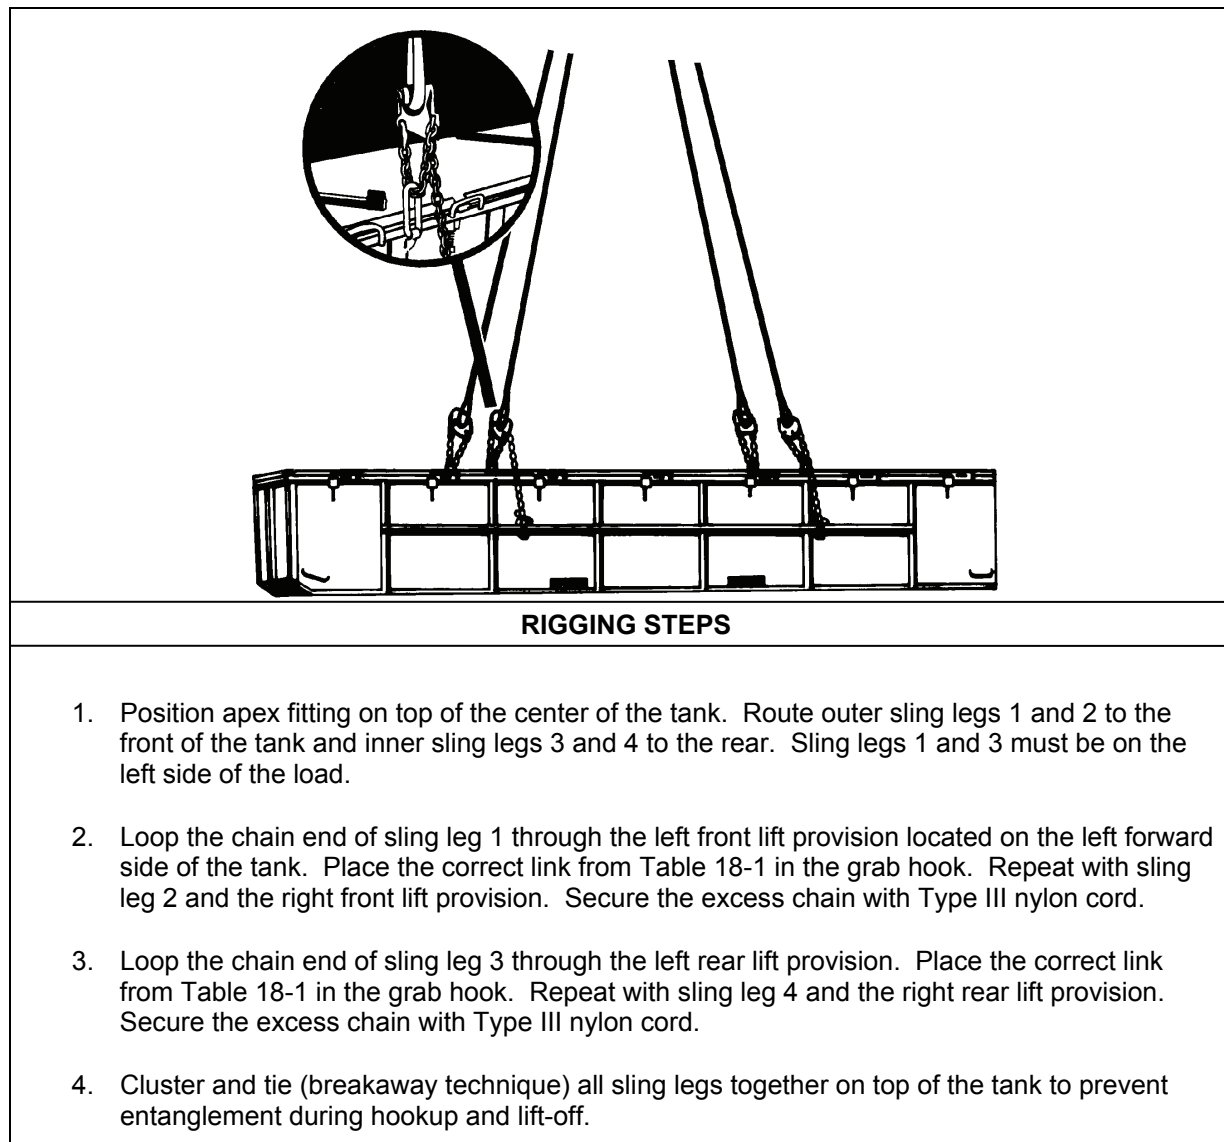

Figure 18-1. Tank, Fabric, Collapsible, 10,000-Gallon
- **Rigging.** Rig the load according to the steps in Figure 18-1.